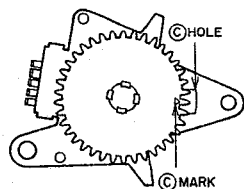

Fig. 3-14
- 1) Set the MODE SELECT SWITCH's gear, so that the Ⓞ mark is in the center of the Ⓞ hole as shown in Fig. 3-14.